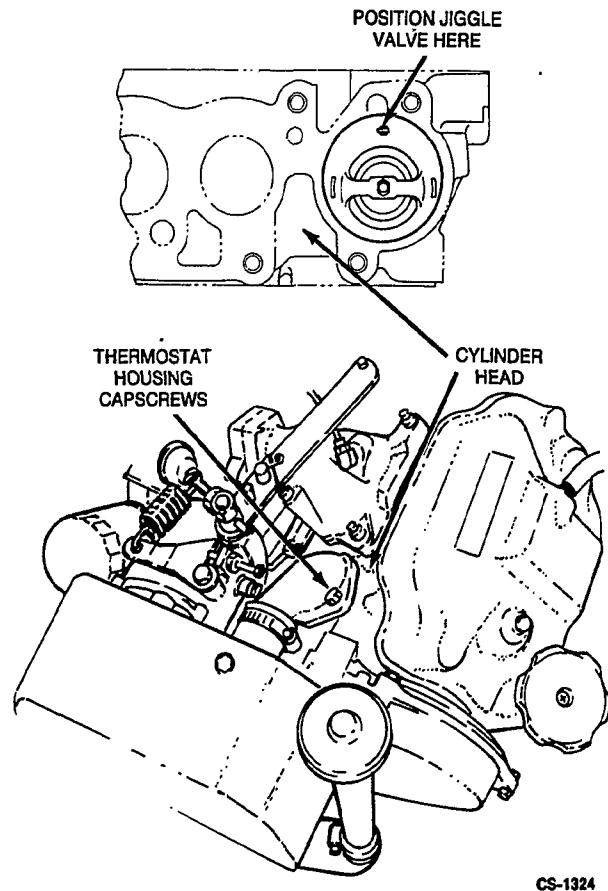

FIGURE 6-8. THERMOSTAT INSTALLATION
The thermostat is located in a housing mounted to the cylinder head as shown in Figure 6-8. If the engine overheats or does not reach and maintain a minimum operating temperature, the thermostat should be removed and tested as a possible cause.
2. Put the thermostat in the cylinder head and position so that the jiggle valve is at the uppermost location (Figure 6-8). Ensure that the thermostat flange is properly seated in the face portion of the cylinder head.